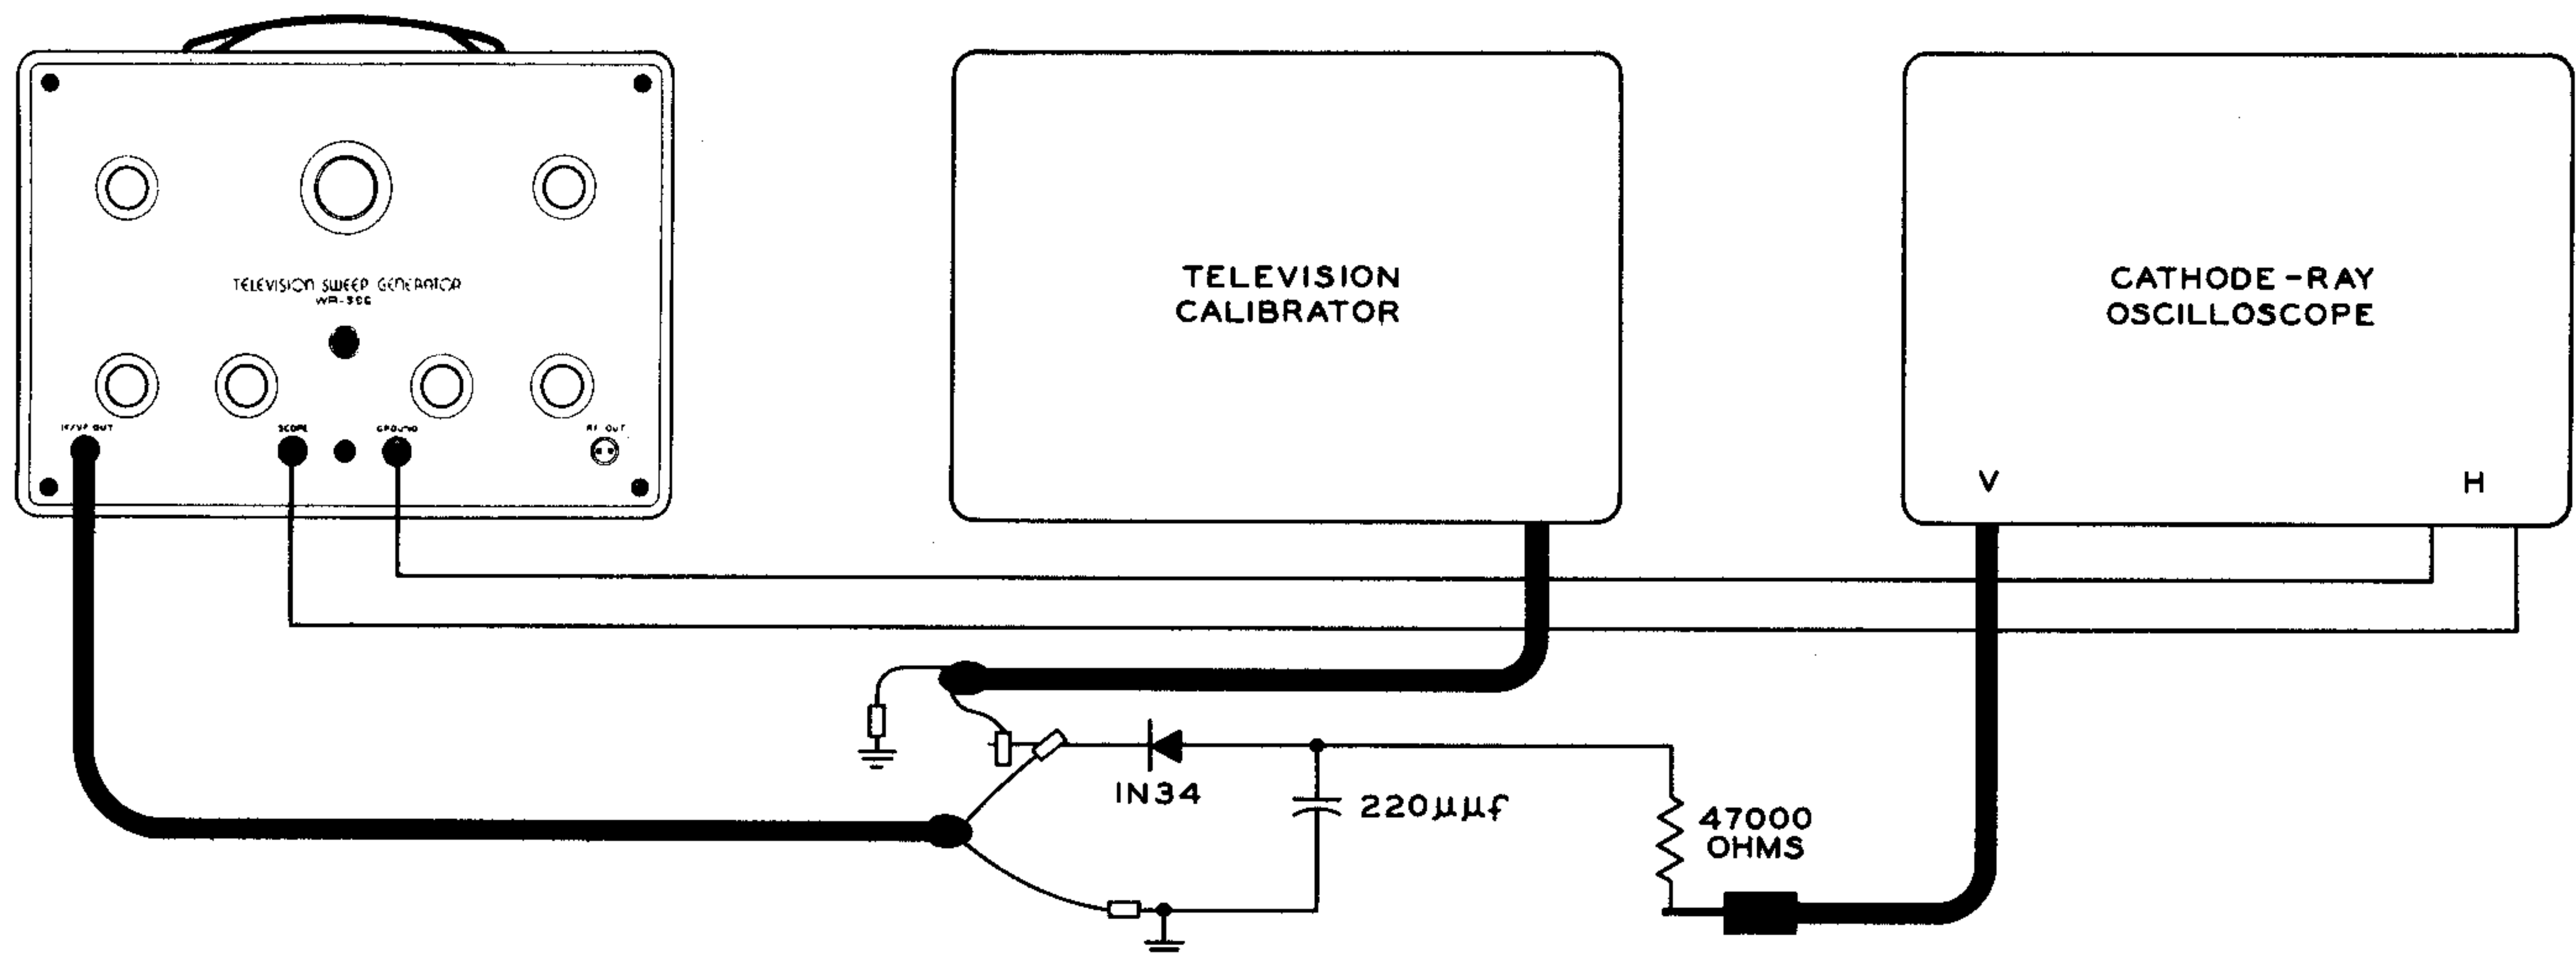

Figure 16. Setup for IF/VF Alignment of the WR-59C
4. Rearrange the setup as illustrated in Figure 16. Note that the two 150-ohm resistors across the input to the detector have been removed and the IF/VF' Output Cable is used in this setup.